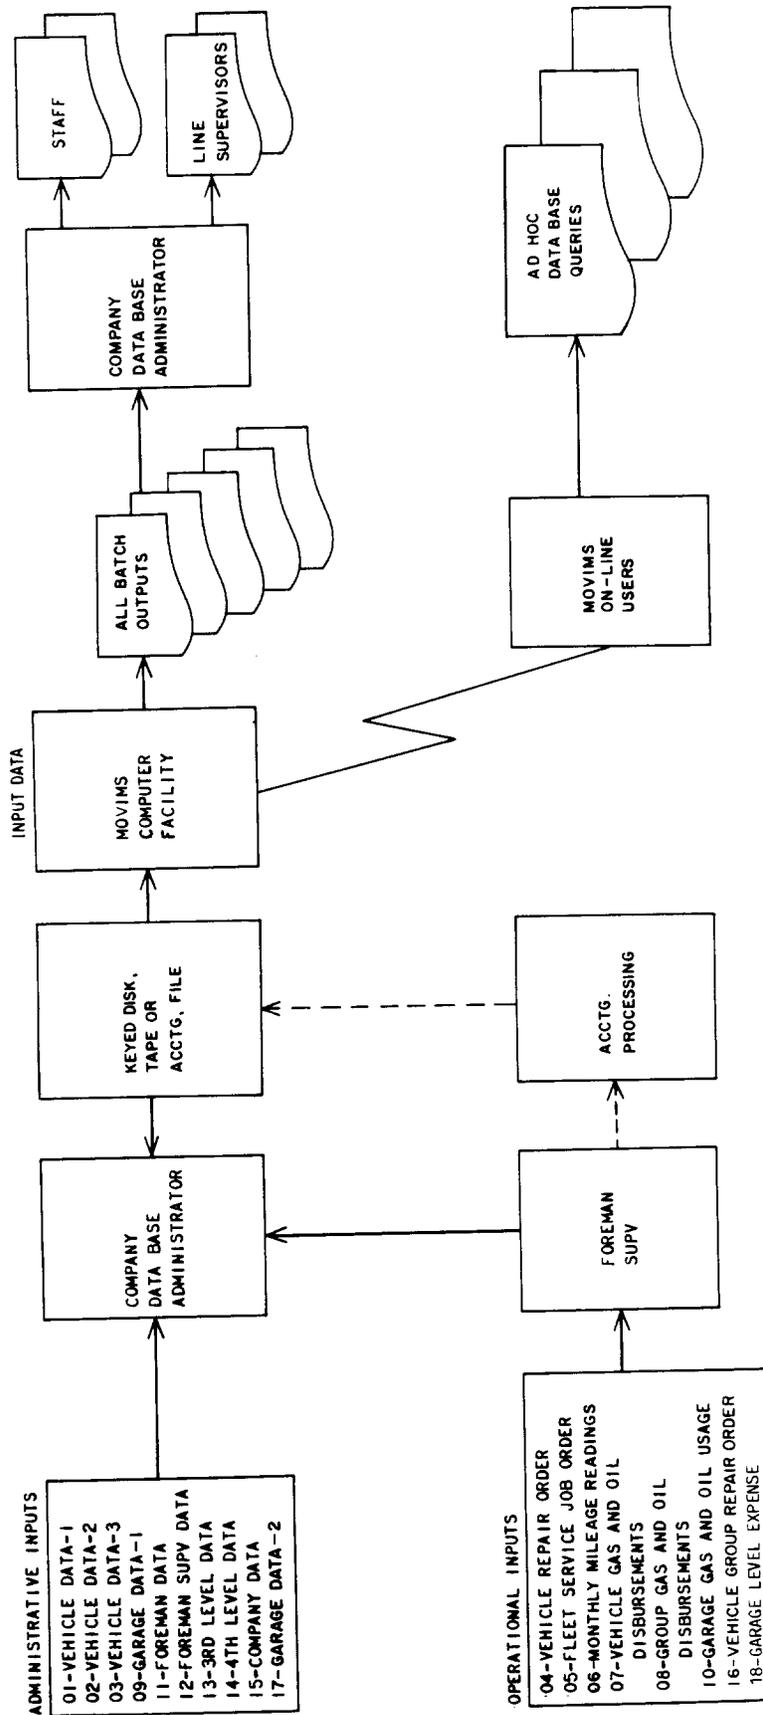

Fig. 1 — General Flowchart — MOVIMS
1.03	Figure 1 is a general flowchart of MOVIMS.